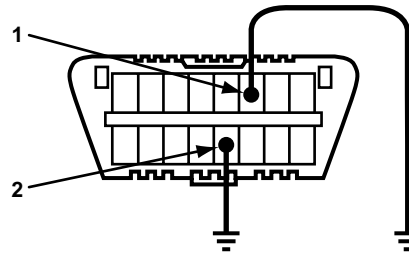

Figure 16-18 Ground DCL3 terminals
1. Connect two jumper wires to terminals #13 and #6 of DCL3 (16-pin OBD-II) (Figure 16-18).